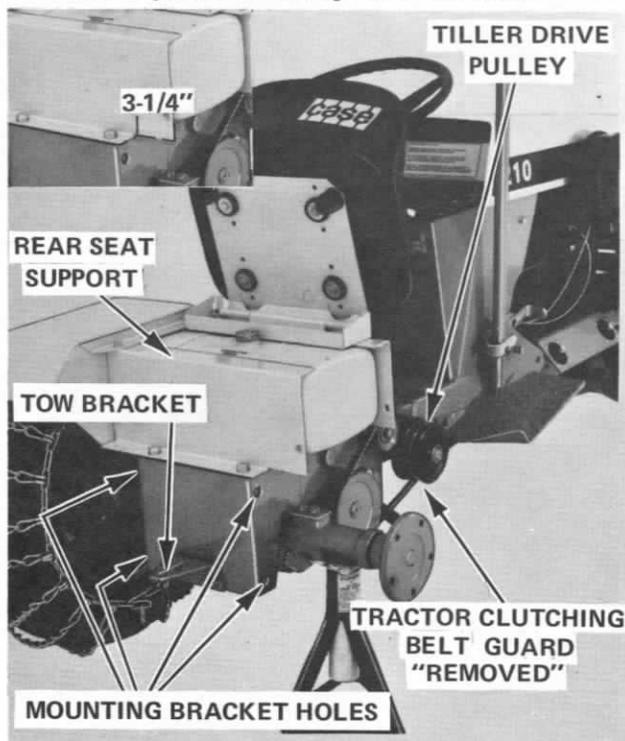

Figure 7
2. Remove the rear seat support. Cut a notch 3-1/4 inches (90 mm) long and even with bend as shown in Figure 7. This notch is required for clutching idler clearance.